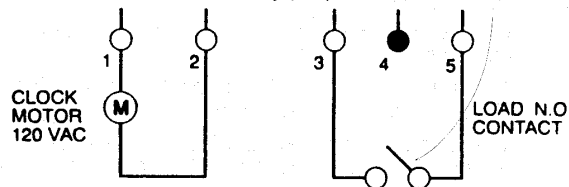

Figure 4 — Wiring Diagrams
- Tank inlet and discharge check valves installed correctly and sealing properly. fig 4 page 3